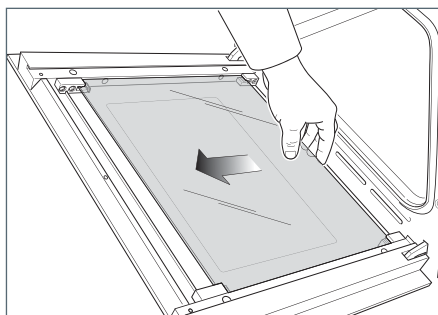

Fig. 37b
- Gently unlock the middle pane of glass from the bottom clamps by moving it as in Fig. 37b.